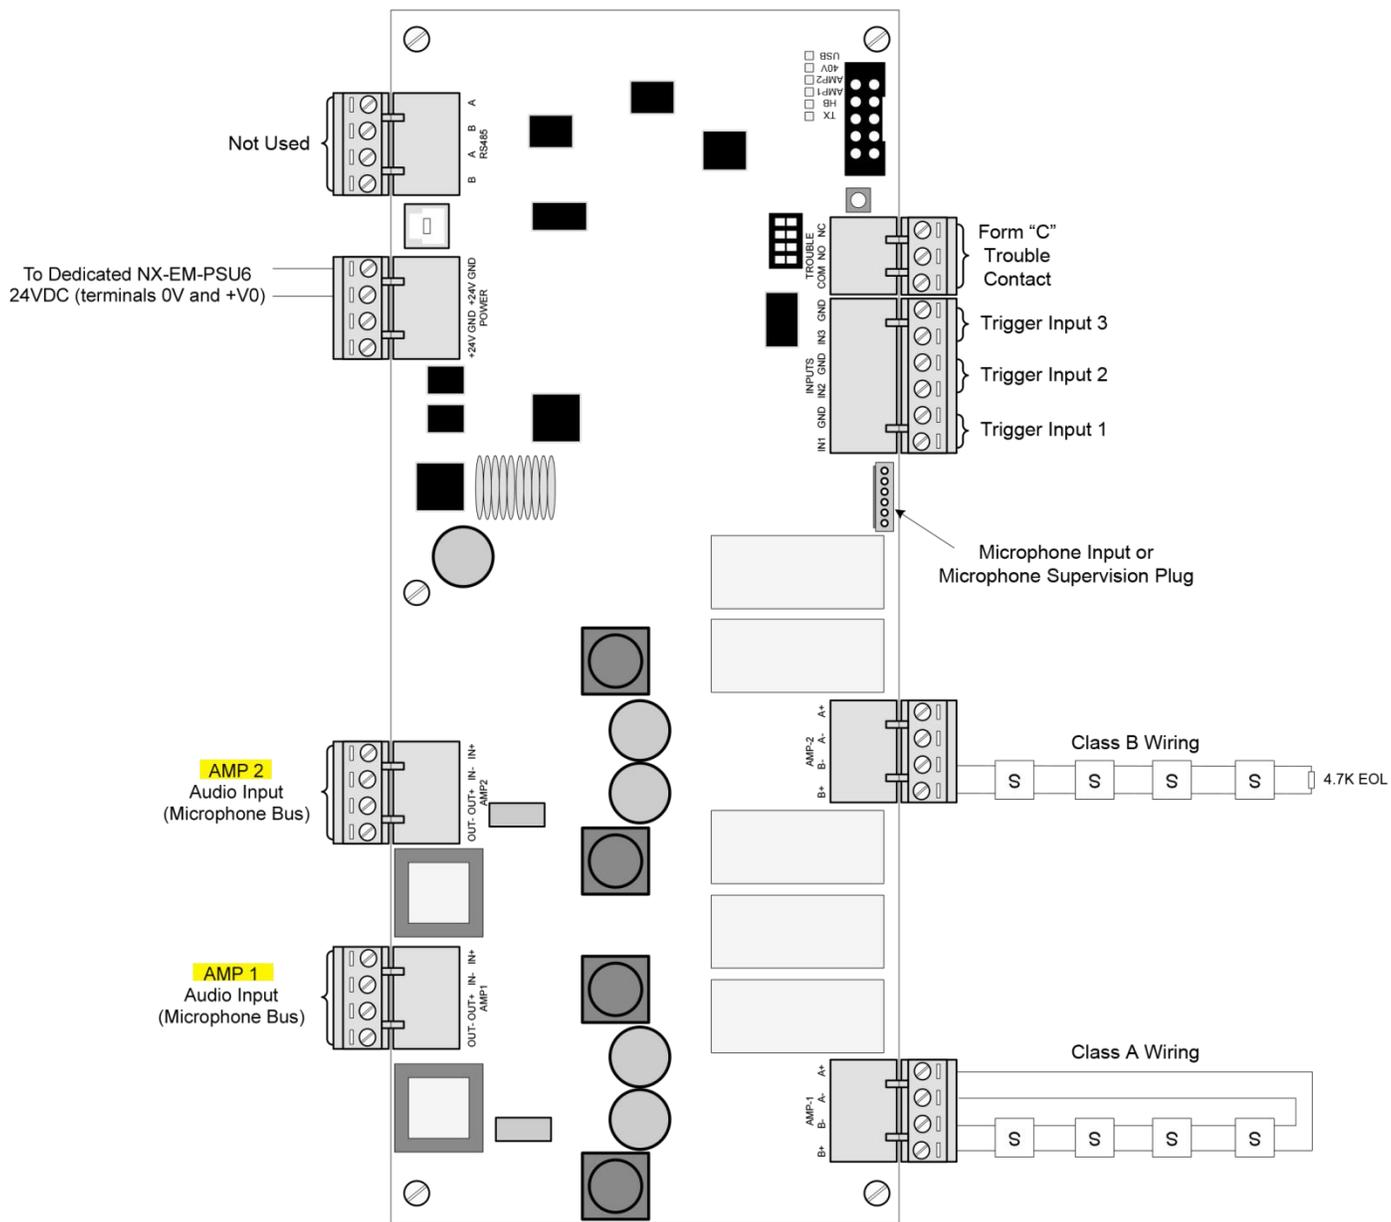

Figure 31 – Hardwired NX-AMP-80 Amplifier
As a hardwired (non PBUS) amplifier, the NX-AMP-80 can support two (2) field programmable messages. Each of the NX-AMP-80 amplifiers (two per NX-AMP-80) is activated whenever one of the NX-AMP-80 trigger inputs (trigger input 1, 2 or 3) is activated (see figure 31):